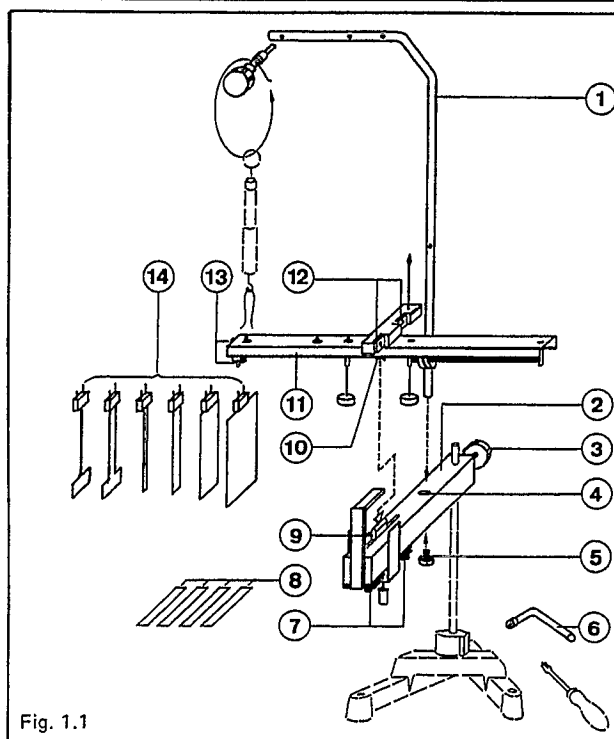

Fig. 1.1
6 Conducting loops (lengths: 80, 40, 20 and 10 mm, shape of the loops: see Fig. 1.1, item ④)
3.1.1 Assembly and first-time operation (see Figs. 1.1 and 1.2)